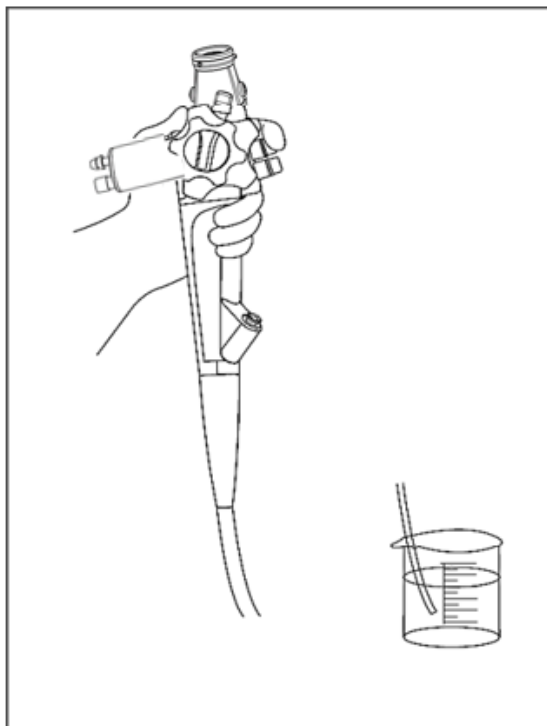

Figure 7.7
3. Insert the tip into the detergent solution. Press the Suction button and suck detergent into the clamp pipe for about 50 seconds. (As shown in Figure 7.7)